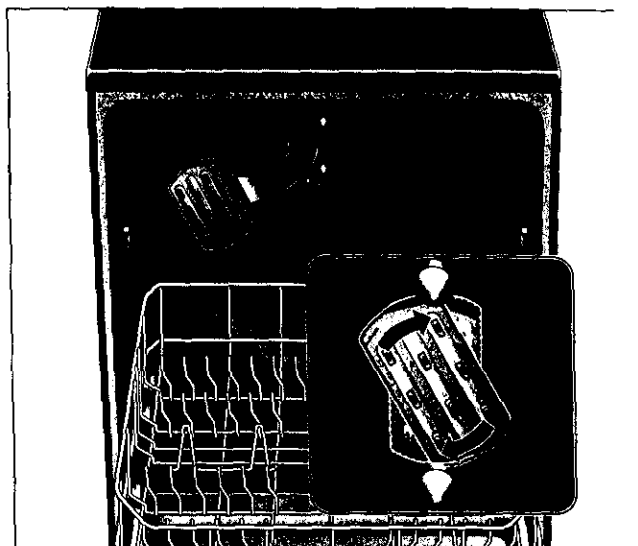

Figure 9.
If you have extra tall items that cannot fit in the lower rack without interfering with the upper spray arm or without hitting the upper rack, the upper rack may be removed. A special "Extra Tall Item Sprinkler" is provided with the dishwasher to allow use of the dishwasher with upper rack removed. See figure 9.
2. Place the "Extra Tall Item Sprinkler" over the upper rack spray outlet at the back of the dishwasher tub (refer to figure 9) and turn clockwise to lock sprinkler head in place.